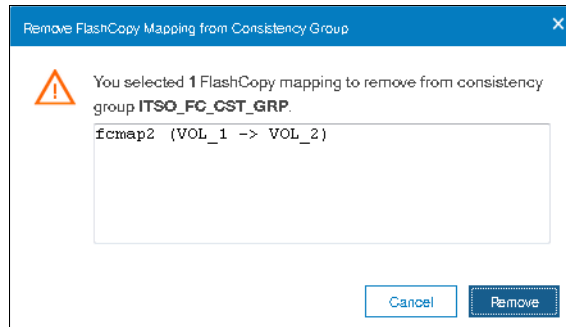

Figure 10-56 Remove FlashCopy Mapping from Consistency Group
4. In the Remove FlashCopy Mapping from Consistency Group window, click **Remove**, as shown in Figure 10-56 on page 507.